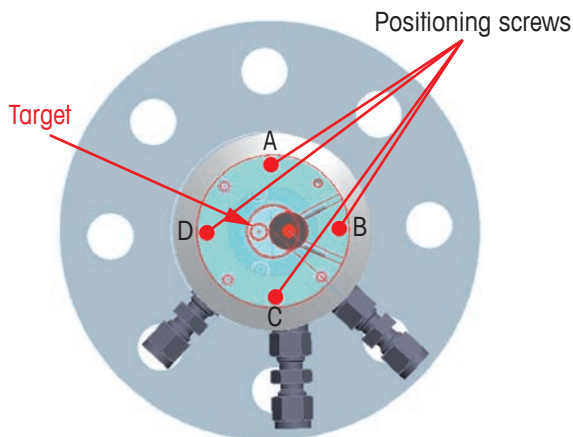

Figure 19 Beam positioning screw location.
Regardless of which beam positioning procedure is used, adjustment is achieved by simple adjustment of 4 laser beam adjustment screws (Figure 19 on page 48). These screws are recessed into the TDL head flange assembly.
The laser pointer positioning tool is fitted onto the TDL head mounting flange, as shown in Figure 19 on page 48
- 2 Loosen the 4 laser beam positioning adjustment screws (see Figure 19 on page 48).
<p>2 Loosen the 4 laser beam positioning adjustment screws (see Figure 19 on page 48).</p>